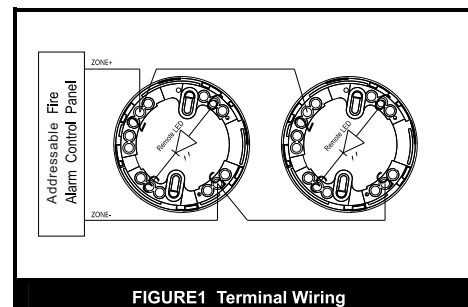

FIGURE1 Terminal Wiring
3. Position all wires flat against terminals, and fasten the wires on the terminals. See Figure 1.